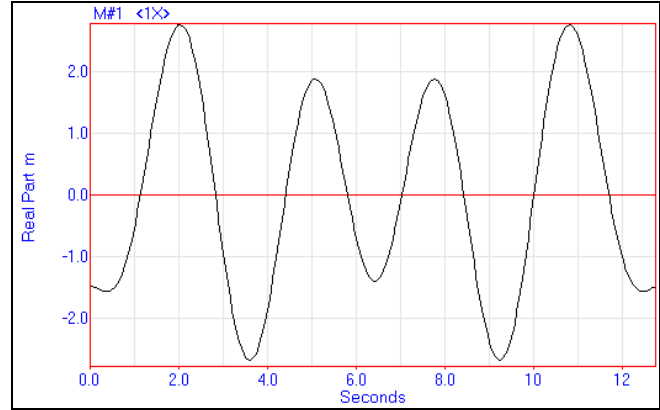

Figure 17. Displacement of Non Periodic Sine Wave After Band Pass Windowing of Frequency Data.
- Execute **Transform | Inverse FFT** to recover the integrated time domain signal, as shown in Figure 17.